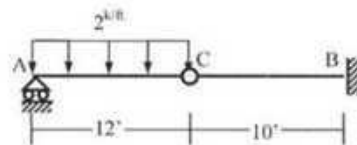

Fig. 4
4. Calculate the vertical deflection at point C of the beam shown in Fig. 4 using Virtual Work Method [Given  $EI = 40,000\text{k-ft}^2$ ].